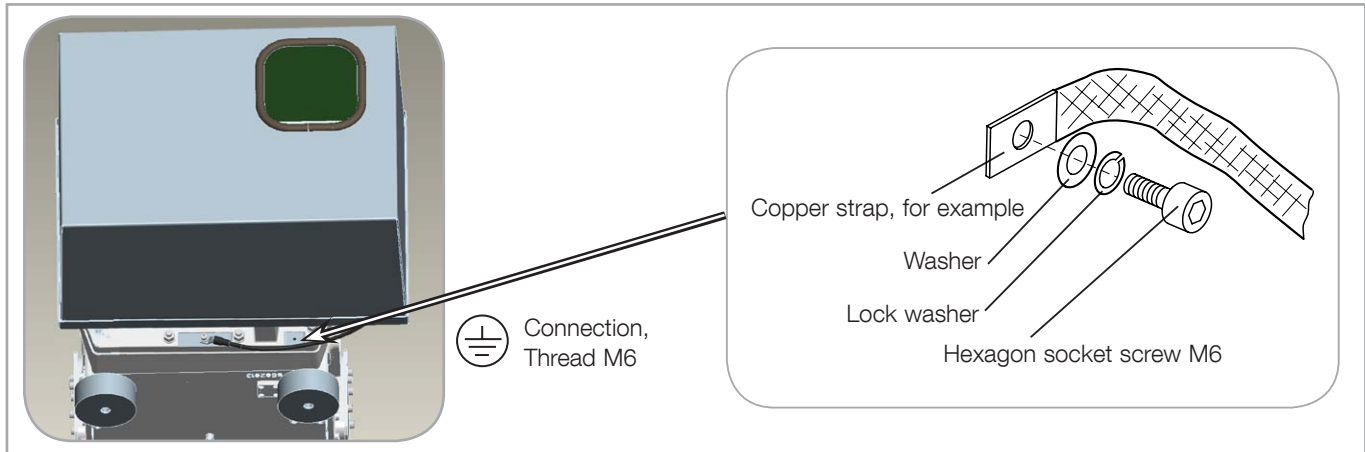

Fig. 3.13 Establishing the potential equalisation at the pump casing
- Keep the ground wires as short as possible. **The frequency converter produces leakage currents** (typically less than 10 mA). In the case of unbalanced mains power supplies, the leakage current may exceed 10 mA. In this case the protective ground conductor must exhibit a cross-section of at least 10 mm². Or connect a further protective ground conductor having at least the same cross-section as the connection cable. A connection point is provided, see Fig. 3.13.
Connect the potential equalisation conductor as depicted in Fig. 3.13.